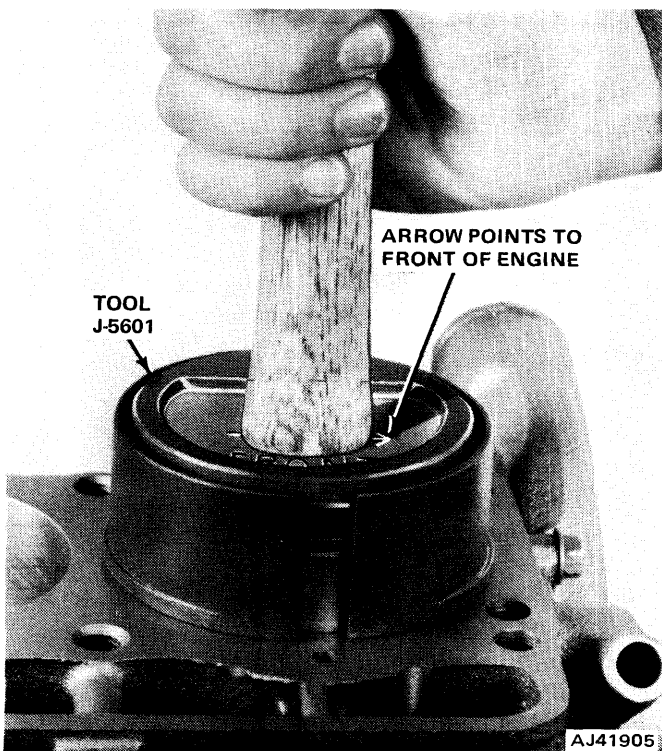

Fig. 1A-37 Piston-to-Bore Installation
- (1) Install upper main bearing inserts in cylinder block.
- (2) Install crankshaft.
- (3) Install main bearing caps and inserts. Plastigage all bearings. Tighten bolts to 80 foot-pounds torque.
- (4) After thoroughly cleaning cylinder bores, apply a light film of clean, engine oil to bores with a clean, lint-free cloth.
- (5) Position piston rings on piston as follows:
- (6) Lubricate piston and rings with clean engine oil.
- (7) Use Piston Ring Compressor Tool J-5601 to install connecting rod and piston assemblies through the top of the cylinder bores (fig. 1A-37)